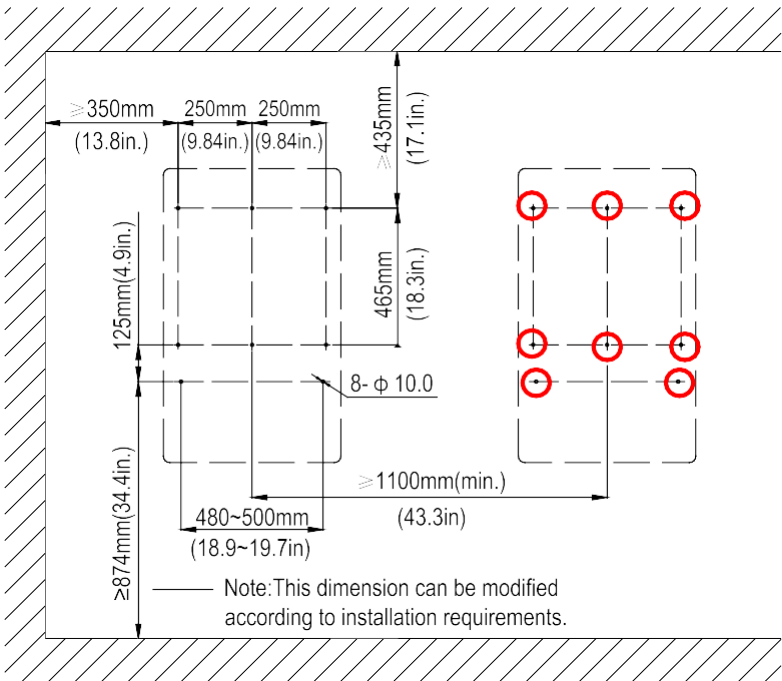

Figure 3-6 Dimensions of the Bracket Anchoring Holes for Mounting
Step 1 Locate and mark the 8 holes on the wall, PV racking structure, or bearing surface for attaching the inverter mounting bracket as shown in Figure 3-6.